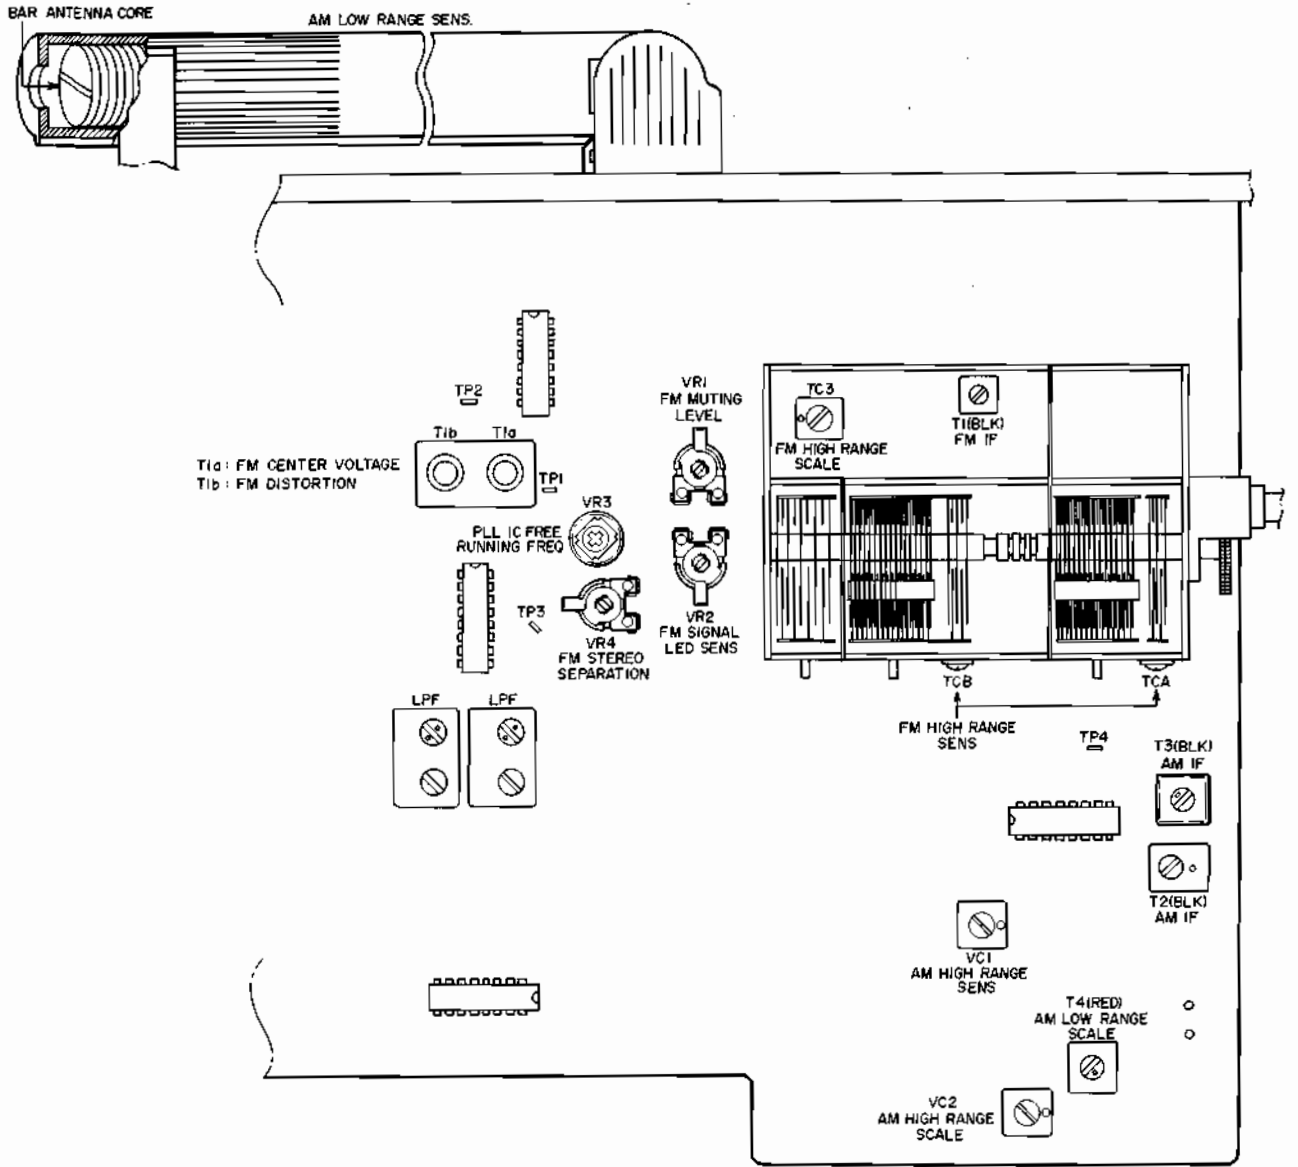

Fig. 5 Tuner P.C Board
1. FM SECTION ADJUSTMENTS (Refer to Figs. 5, 7, 8)
Unless otherwise specified, use the adjustment points provided on the Tuner P.C Board (Fig. 5).
2. AM (AT-K33L: MW) SECTION ADJUSTMENTS (Refer to Figs. 5, 6, 7, 9)